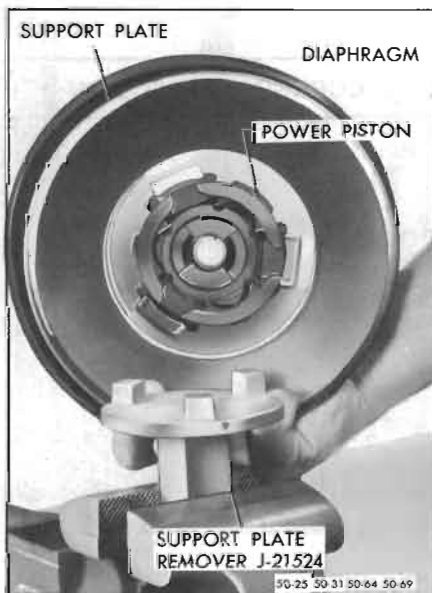

Figure 50-31—Positioning Power Piston in Wrench
3. Place the J-21524 power piston wrench in a vise. Position the power piston on the wrench with the three lugs fitting into the notches in the power piston. See Figure 50-31.